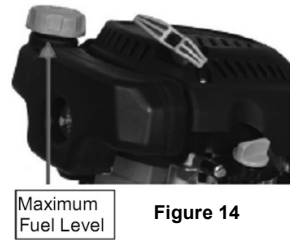

Figure 14
2. How to add fuel (Figure 14)